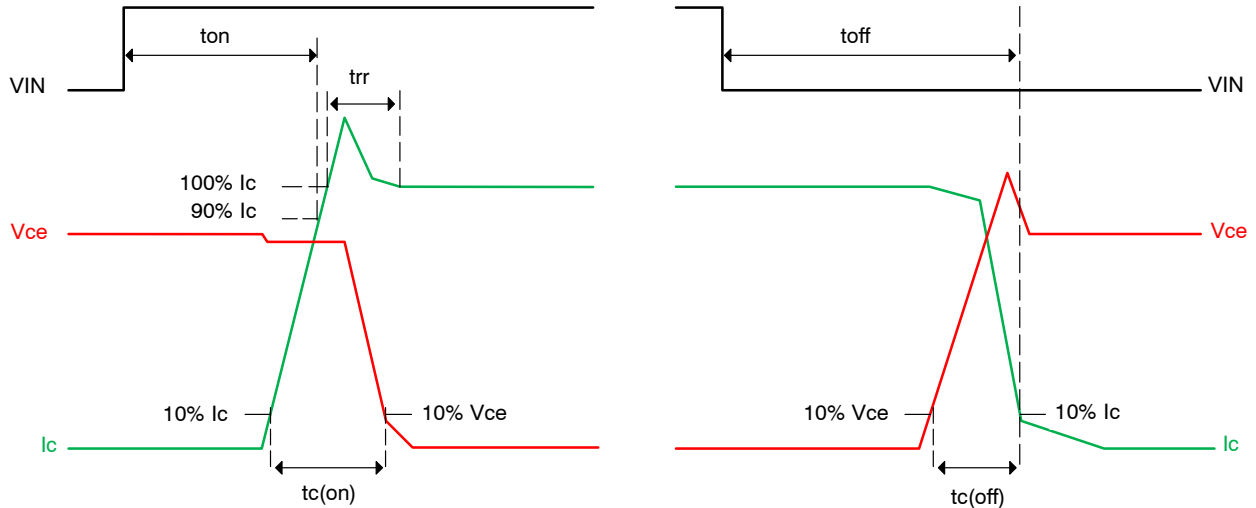

Figure 3. Switching Time Definition
7. tON and tOFF include the propagation delay time of the internal drive IC. tC(ON) and tC(OFF) are the switching time of IGBT itself under the given gate driving condition internally. For the detailed information, please see Figure 3.